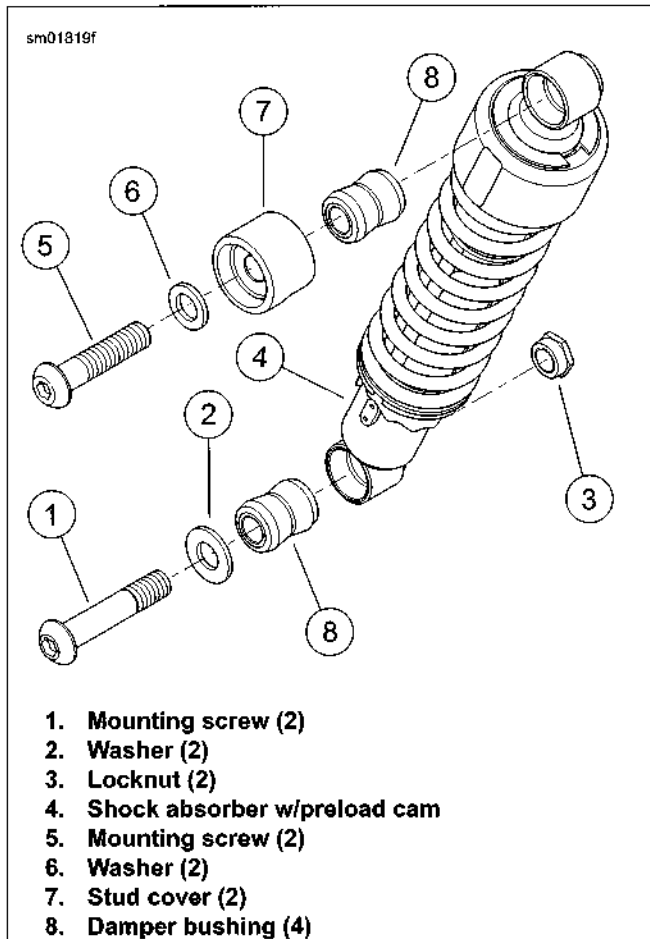

Figure 2-104. Shock Absorbers: All except XL 1200T
3. See Figure 2-104. Remove fastener (1), washer (2) and locknut (3) from bottom end of shock absorber.
4. Remove fastener (5) and washer (6) from top end of shock absorber.
5. Remove stud cover (7).
1. See Figure 2-104. Assemble upper fastener (5), the washer (6) and stud cover (7).
2. Install shock absorber mounting stack through shock absorber (4).
3. Position bottom end of shock absorber against outboard side of rear fork mount. Insert mounting bolt (1) and washer (2) through damper bushing (8) and rear fork mount.
4. Thread on locknut (3).